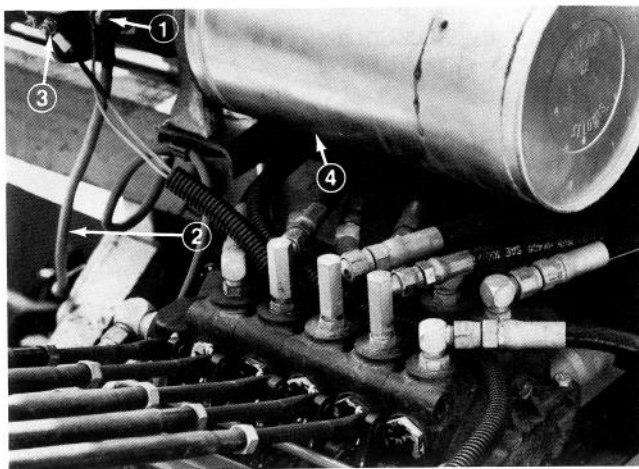

Figure 7
13. Connect 5/16" ring terminal of wire harness and 5/16" terminal end of red battery cable (23") to "B" terminal of power pack solenoid (Fig. 7). Connect #10 ring terminal of wire harness to "S" terminal of power pack solenoid (Fig. 7).
14. Attach connector, supplied with wire harness to key switch (Fig. 7).